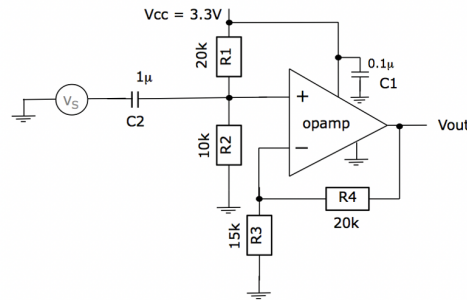

Figure 1.1
1. (a) Figure 1.1 shows an amplifier circuit using an op-amp operating at 3.3V and has a gain-bandwidth product of 1MHz. It amplifies the input signal V_S and produces an output voltage V_{out} .